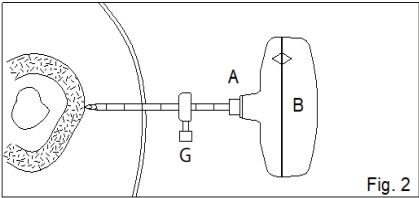

Fig. 2
FIG. 2 Move the depth gauge (G) forward until in contact with the skin, then withdraw it by the desired depth, using the centimeter markings on the Cutting Cannula (A) to provide a visual guide.